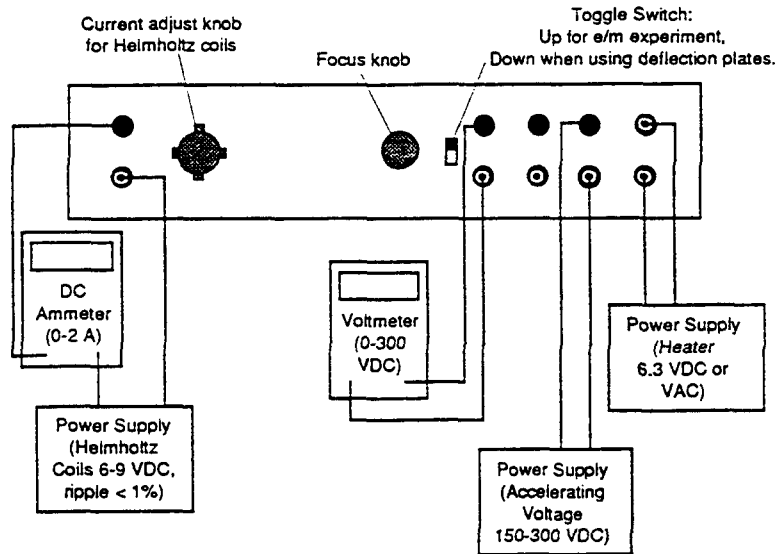

Figure 3. Connections for e/m Experiment
5. Connect your power supplies and meters to the front panel of the e/m apparatus, as shown in Fig. 3.